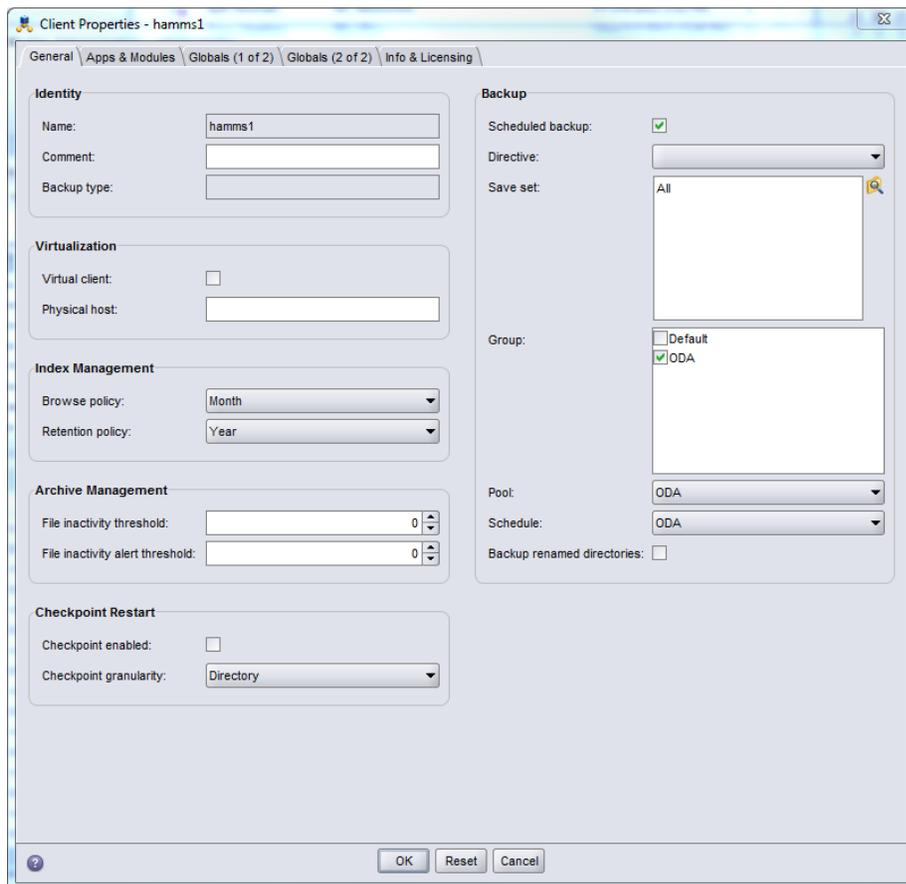

Figure 15: NetWorker Client Properties - General tab
- 6) Select the Schedule defined in a previous step from the drop-down menu (ODA in this example). (See figure 15):